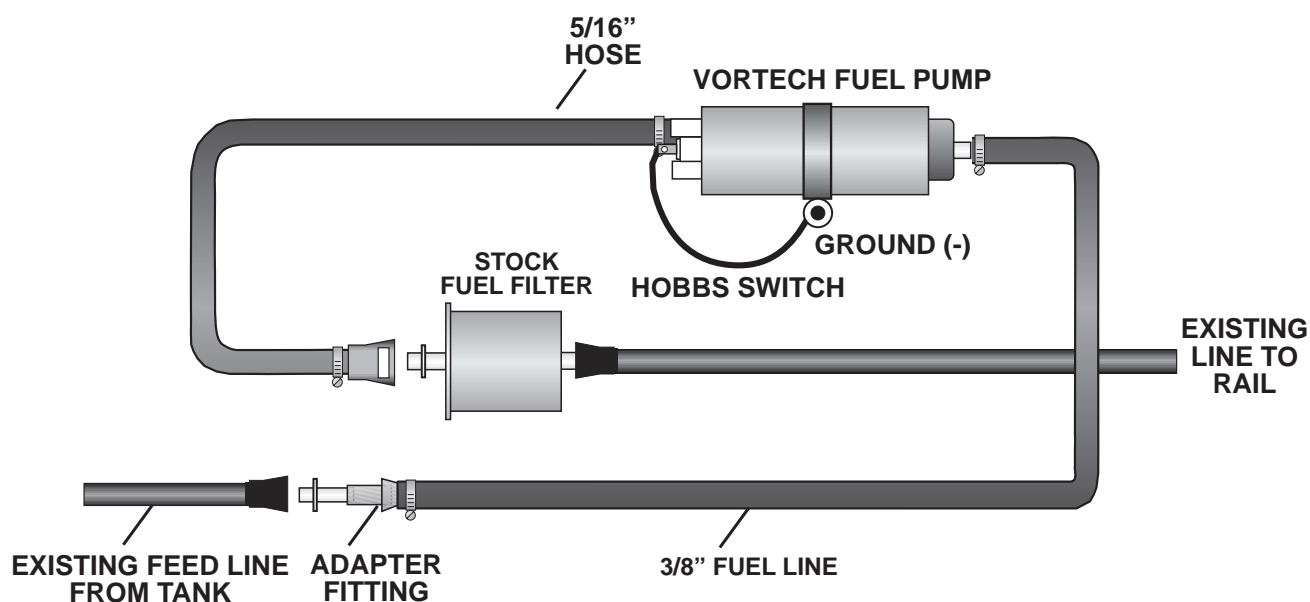

Figure: 10-a
- B. Disconnect the line to the fuel filter by carefully removing the white retaining tab. Attach the line to the adapter fitting, as shown. (See *Figure 10-a*.)